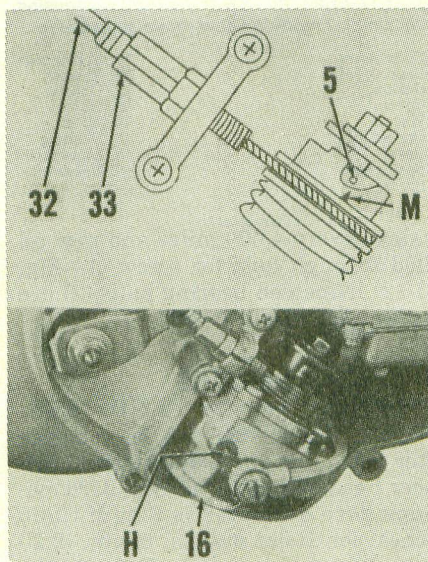

Fig. Y3-6—View of the "Autolube" oil injection pump. Refer to text for bleeding and adjusting procedure.
If the "Autolube" system is drained or the pump unit is renewed, the air should be bled from the system as follows: Remove screw from bleeder hole (H—Fig. Y3-6), pull pump control cable (32) up out of the guide (33) and turn starter plate (16) until oil without air bubbles flows from hole (H). Reinstall the bleeder bolt. Start engine and run at idle speed while pulling pump cable (32) up until oil lines are completely free of air bubbles. If bubbles can not be removed from the pressure line, check for leaking pump seals or inlet oil line.
The pump must be correctly adjusted to provide the correct amount of oil for proper lubrication. Adjustment should be checked every 2,000 miles. To adjust, proceed as follows: Check the plunger minimum stroke by turning the starter plate (16—Fig. Y3-7) until clearance between pulley and adjusting plate is at its minimum, then measure clearance with a feeler gage as shown at (G). If clearance is not within limits of 0.008-0.010 inch (0.20-0.25 mm), vary the number of shims (8—Fig. Y3-8). After plunger minimum stroke is correctly set, twist the throttle until top of "O" mark stamped on carburetor slide is at top of carburetor bore and check alignment mark (M—Fig. Y3-6). Mark (M) should